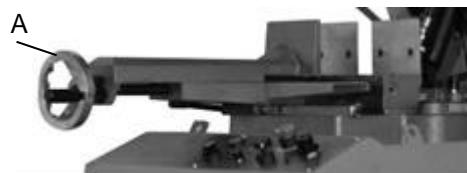

Fig. 14
Refer to Fig 14.
1. Turn the hand wheel (A) Fig.14 counter clockwise to open the vise jaw to allow the width of vise can load work piece.
2. Make sure the work piece is well located on the table. Turn the handle (A) clockwise to close the vise jaw to clamp the work piece. Sure the work piece is well located on the table. Turn the handle (A) clockwise to close the vise jaw to clamp the work piece.